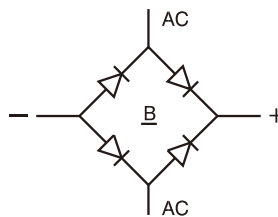

FIGURE 2
- Surge current waveform per Figure 3 and derate per Figure 2.